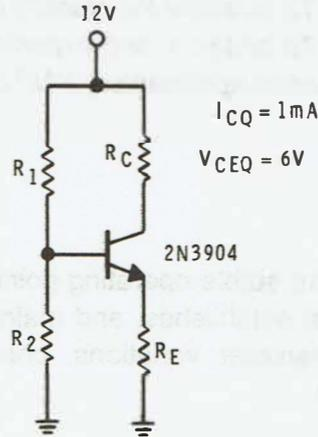

Figure E3-1
1. In Figure E3-1, $V_{EQ} = 30$ percent of V_{CC} . Calculate the values required for the biasing resistors:
- Construct the circuit shown in Figure E3-1. Here, $R_E = 3.3\text{k}\Omega$, $R_C = 2.2\text{k}\Omega$, $R_2 = 3.3\text{k}\Omega$, and $R_1 = 6.8\text{k}\Omega$. You will use your oscilloscope to make voltage measurements and your multimeter to measure the collector current, I_C .